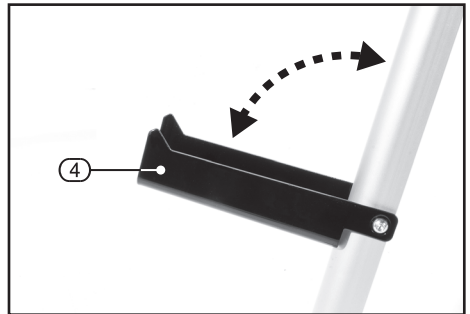

FIG.19
- Loosen the locking knobs (2), slide the roller bars up and down to the desired location.
9.2 MATERIAL SUPPORTS – FIG.19